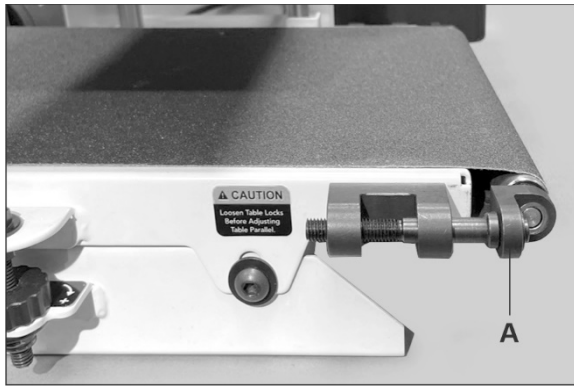

Figure 7-2: Belt Tension Adjustment
1. Turn take-up screw (A, Figure 7-2) with 5mm hex wrench. Do this on *both sides* of conveyor to obtain approximately equal tension on both sides of sanding belt when taut.
3. If conveyor drifts, turn take-up screw (A, Figure 7-2) counterclockwise to tighten the side the belt is drifting toward. Turn the opposite side take-up screw clockwise to loosen.